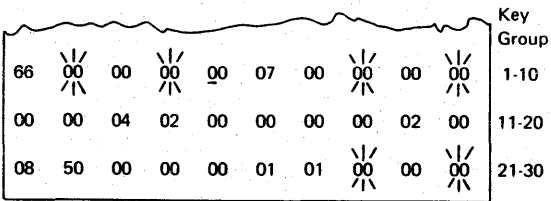

FIGURE 1
The diagnostic causes the contents of thirty of the 8-bit registers to be displayed. Each register will be represented by two alphameric characters out of the group: 0, 1, 2, 3, 4, 5, 6, 7, 8, 9, A, B, C, D, E, and F. If all keyboard toggle switches are in a down (off) position and the machine is in the XR mode (initialized diskette installed) when the CE mode is selected, then when the display register diagnostic is selected, the display should look similar to Figure 1.
(The six highlighted registers should always be 00 for a properly operating machine. The other registers will show their contents when the 1/U key is pressed and may be different than shown in Figure 1.)
The six highlighted registers in Figure 1 will always be 00 at first selection of the diagnostic if the machine is operating properly.
- Press the U key. The machine mode and status should change to CEW and the display should look similar to Figure 1. (The six highlighted registers should always be 00 for a properly operating machine. The other registers will show their contents when the U key is pressed and may be different than shown in Figure 1.)